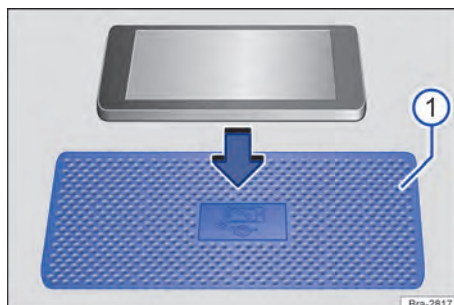

Fig. 140 Illustration: stowage area with lining mat for the wireless charging station.
In some vehicles, the lining mat has a telephone symbol which marks the centre of the wireless charging station → Fig. 140 ①. The symbol on the lining mat may look different in some vehicles.